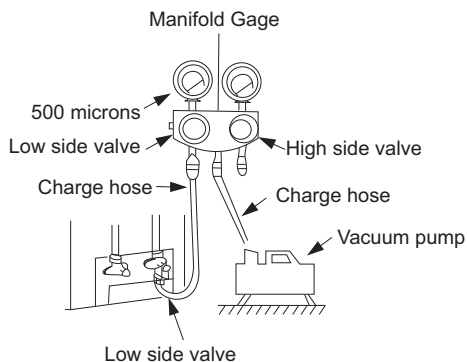

Fig. 9 — Manifold
3. Fully open the low side of manifold gage (see Fig. 9).